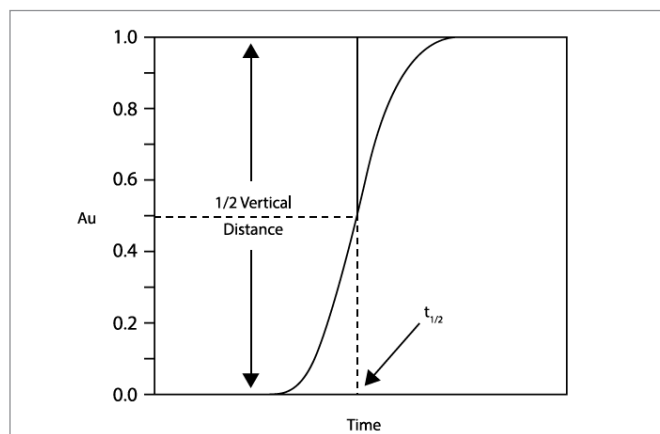

Figure 11. Determination of Gradient Delay Volume
6. Determine the dwell time by first locating the time at the midpoint of the formed gradient ($t_{1/2}$) (half the vertical distance between the initial and final isocratic segments as shown in Figure 11).
8. Convert the dwell time (t_D) to the dwell volume (V_D) by multiplying by the flow rate (F).